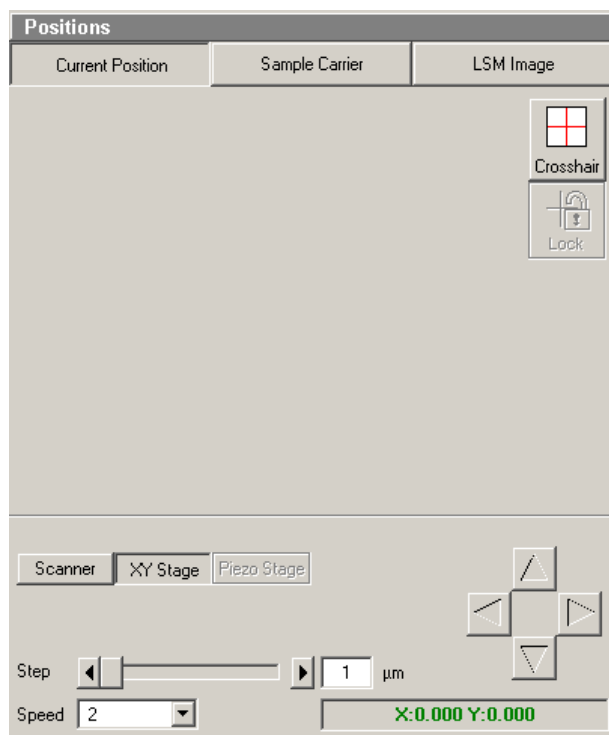

Fig. 4-101 Positions panel, Current Position
- Click the **Crosshair** button (see Fig. 4-101).